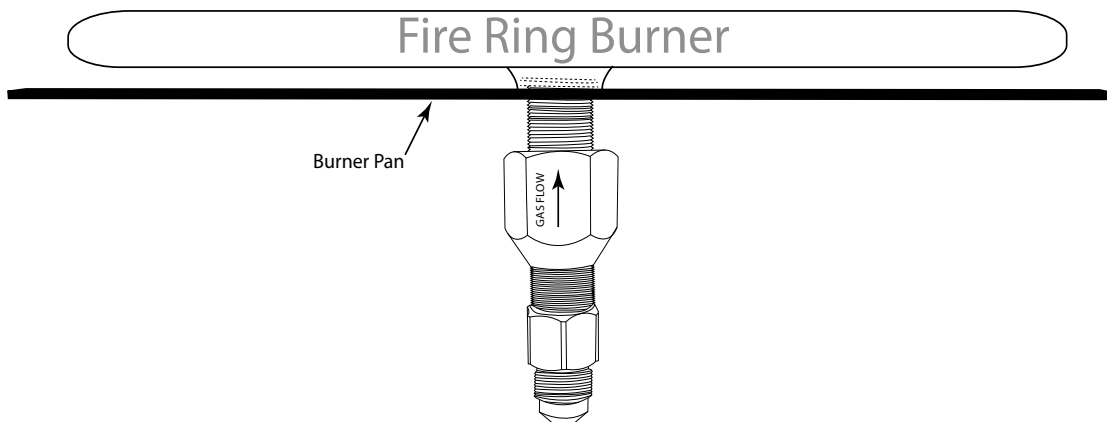
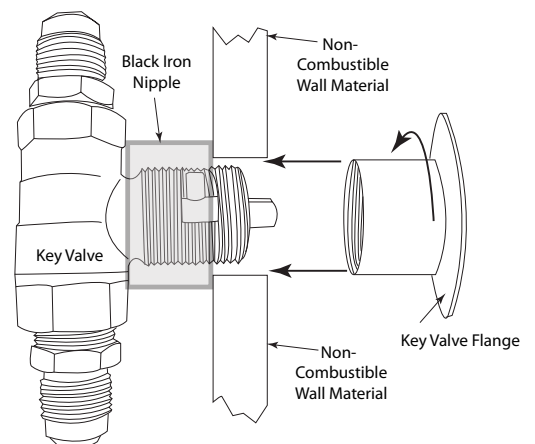

Fig. 8 Fire Ring Installed into Burner pan/disc.
Fig. 12 Typical installation.
Step 2: Install the fire ring through the pan (See Fig. 8) then install the OAS and U3-8D-S to the nipple connect inlet gas line as shown in Fig. 12 on page 10.
Step 2: Install the fire ring through the pan and connect inlet gas line as shown in Fig. 12 on page 10.
Note: Be sure to leak test all fittings before operation. Fig. 12 shows an example of a typical installation.